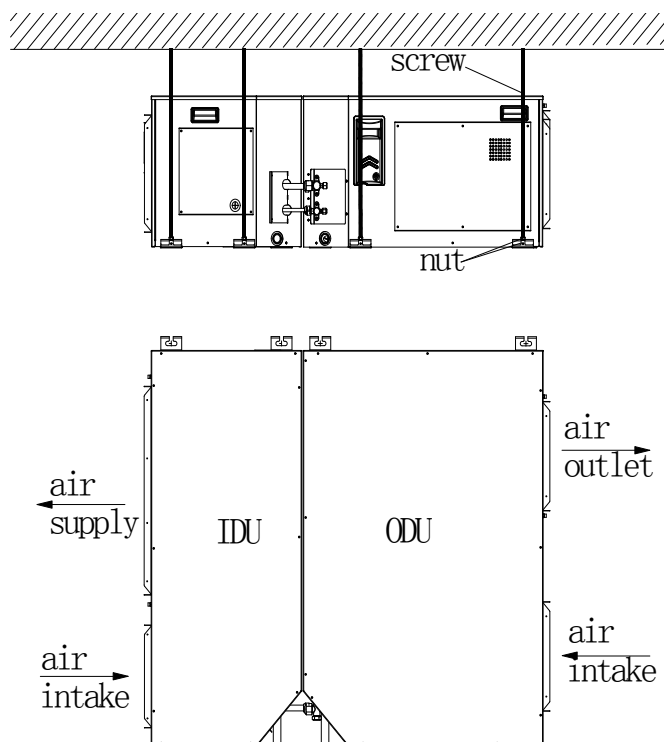

Fig.7
(3) Install the unit at the ceiling as Fig.7 shows.